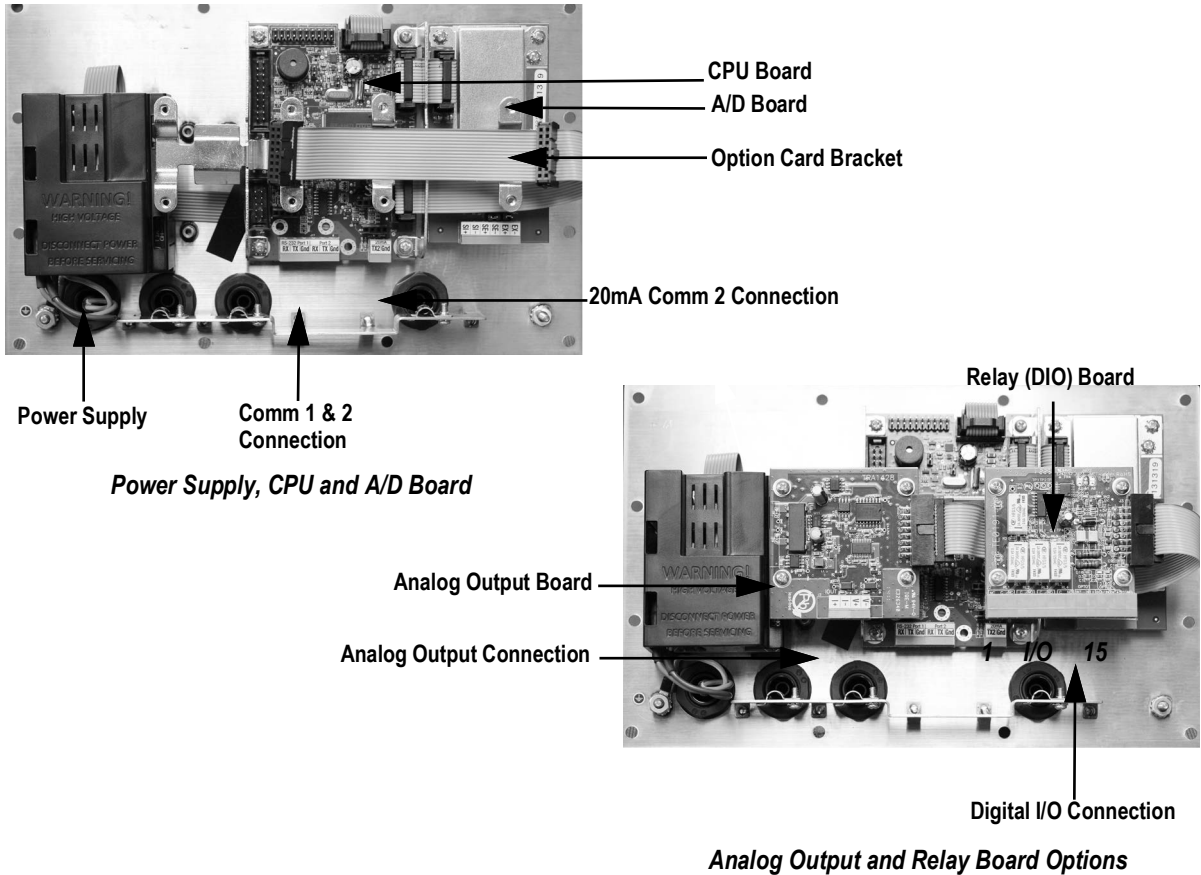

Figure 2-5. 480 Board Options
3. If not already in place, install an option card bracket (PN 131340), See Figure 2-5 on page 19.
4. Mount the analog output module or relay card on the option card bracket. See Figure 2-5 on page 19.